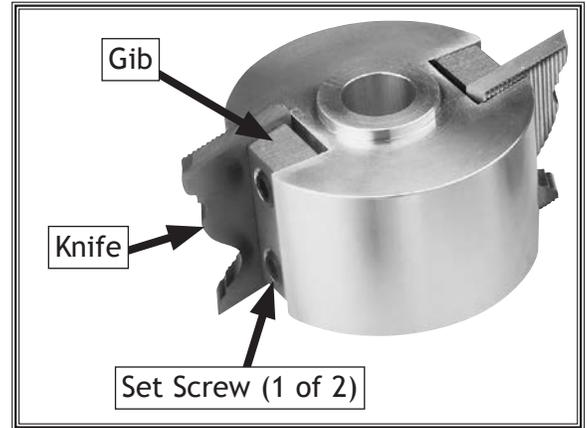

Figure 2. Knife installed in moulding head.
1. Thread (2) included $\frac{3}{8}$ "-16 x $\frac{1}{2}$ " set screws into gib (see Figure 2) so set ends of screws are flush with bottom of gib.